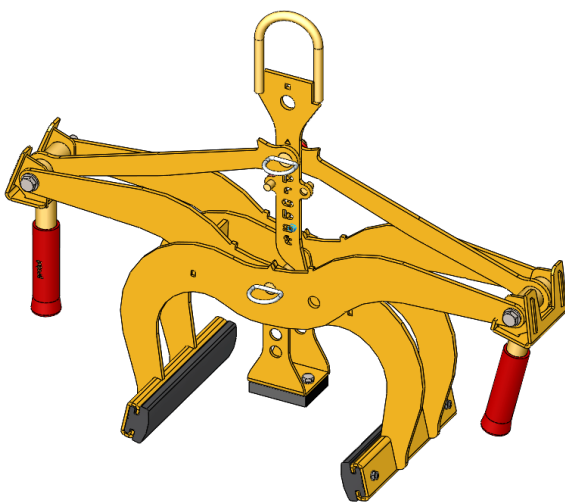
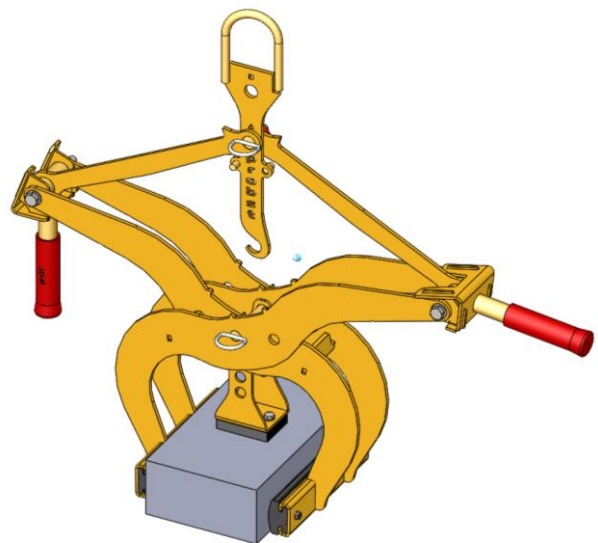

Fig.2
Fig.3
- The ▲ triangle markings (at the gripping arms) must be congruent (in the middle of the device) for these gripping range (Fig. 2). The ▲ triangle marking at the locking hook (2) must be positioned over the plug bolt with linchpin (8) → Fig.3.
- Remove the plug bolt with linchpin (6) or rather the plug bolt with linchpin (8), to adjust the gripping range. **Never remove both plug bolts at once** (only one after another)!
- After the gripping range is adjusted, the device must be secured again with the plug bolt with linchpin (8) or rather with plug bolt with linchpin (6).
- The ■ quadrate markings (at the gripping arms) must be congruent (in the middle of the device) for these gripping range (Fig. 2). The ■ triangle marking at the locking hook (2) must be positioned over the plug bolt with linchpin (8) → Fig.3
- Remove the safety bolt (6) and the plug bolt with linchpin (8), to adjust the gripping range. **Never remove both bolts at once** (only one after another)!